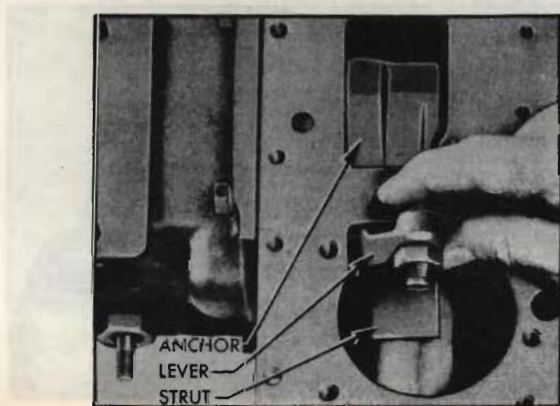

Fig. 46. Removing reverse band operating strut
- Remove the reverse band operating strut by first extending your fingers through the adjustment hole to prevent strut from falling into the case and then raising the operating lever and removing the strut (Fig. 46).